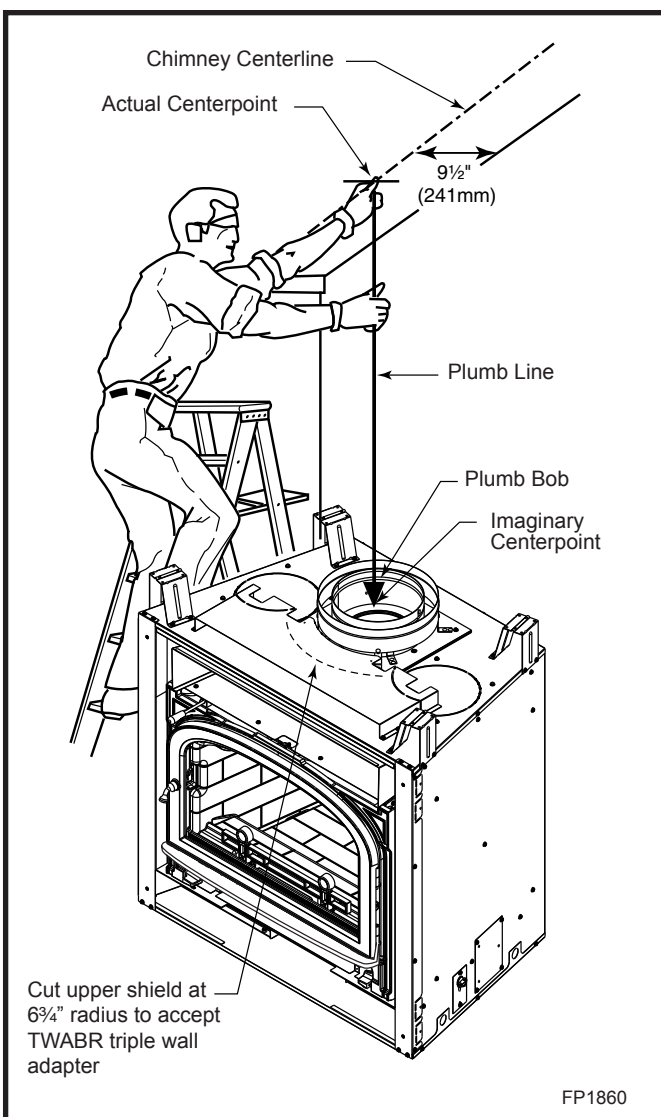

Fig. 10 Locate centerline of chimney with plumb line.
**NOTE:** Fireplaces may use MHSC Model SK8, or Model S (three wall) chimney systems. The Stratton Series Fireplace will accept the SK8 chimney system as shipped; but a TWABR adapter collar is required when using the Model S (triple wall) chimney system. The installation procedure described in this manual applies **only** to the SK8 system. Either chimney system may be used, but the systems **may not** be mixed. The fireplace must be modified to install the TWABR adapter. (Fig. 10)
To mark the centerline of the flue, put the fireplace in final position and measure out from the wall: 9½" (241 mm). Mark a spot on the ceiling directly above the fireplace. Draw a line parallel to the back wall through this mark. (Fig. 10)
Using a plumb bob positioned directly over center point of fireplace flue collar, mark the ceiling to establish the chimney center point. (Fig. 10)